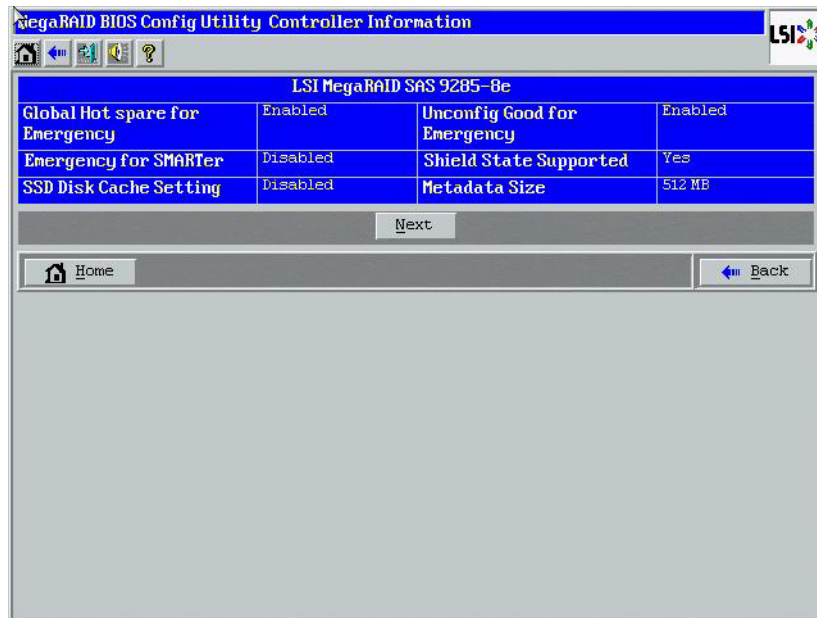

Figure 102: Shield State Support
- The Shield State Supported Column is displayed, as shown in Figure 102.